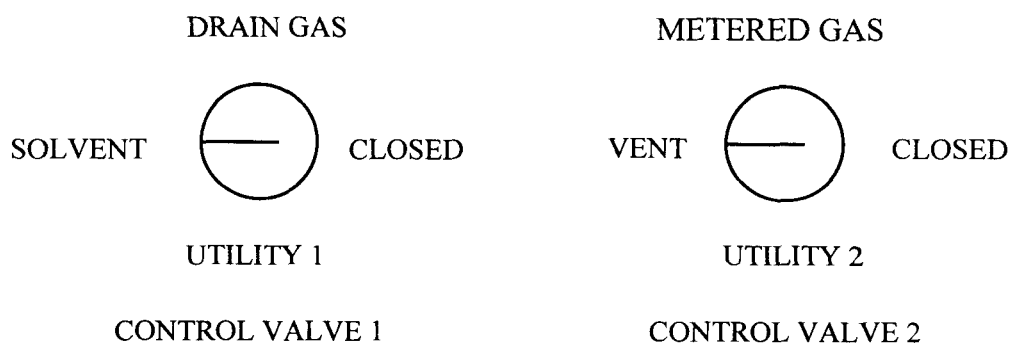

Figure 4-6 Control Valves set to the SOLVENT and VENT position
3. Initialize the solvent flow to the Reaction Vessels by setting Control Valve 1 to SOLVENT and Control Valve 2 to VENT (see figure 4-6).